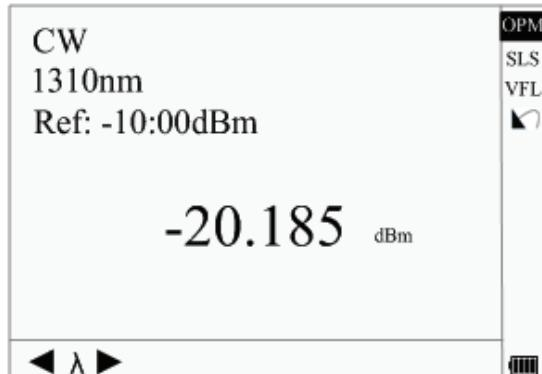

Figure 4-10. Optical Power Meter
- Enter PM/LS interface as described in "Power Meter, Laser Source, and VFL Configuration" in Section 3. Use ▲ and ▼ to highlight "OPM", and press Enter to enter OPM interface (Figure 4-10)